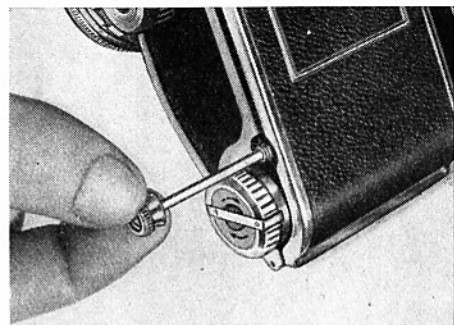

Fig. 29
the camera body (see Fig. 29); then push knob (38) home once again and screw it up tightly. By operating the rapid-wind lever and releasing the shutter twice in succession, the end of the film can be wound right inside the take-up cassette. The film-cutting knife (37) should also be employed in the manner described whenever it is desired to remove a take-up spool containing a partially exposed film from the camera.